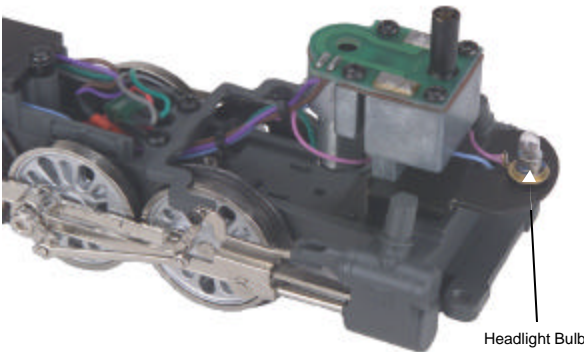

Figure 8: Headlight Location
1. To replace the headlight in this model you will need to follow the disassembly instructions for greasing the engine in figure 5a on pg. 11. Once the boiler has been removed you can access the headlight and firebox lights (see figure 8 and 9).